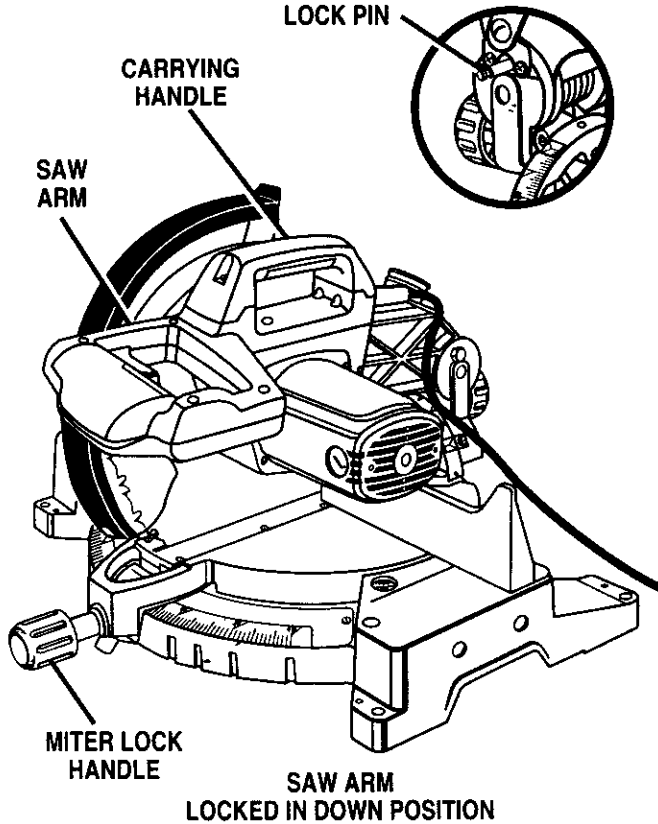

Fig. 4
- Your saw has been shipped with the saw arm locked in the down position. To release saw arm, push down on top of saw arm and pull out the lock pin. *See Figure 4.*
See Figure 4.
For convenience when carrying or transporting your miter saw from one place to another, a carrying handle has been provided on top of the saw arm as shown in figure 4. To transport, turn off and unplug your saw, then lower the saw arm and lock it in the down position. Lock saw arm by depressing the lock pin.